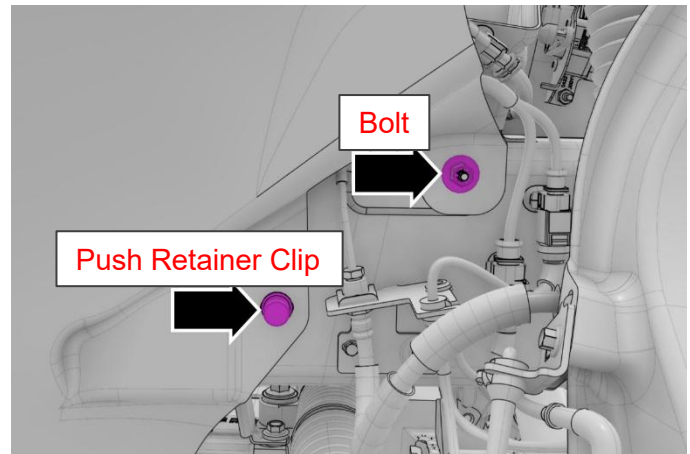

Figure 9
2. Remove the 1 push retainer clip and the 1 bolt from the wheel liner. (Figure 9)